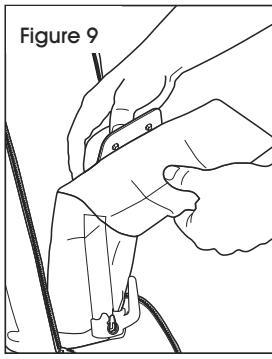

Figure 9
3. Support the top of the dirt tube and pull the dust bag collar forward. (See Figure 9)